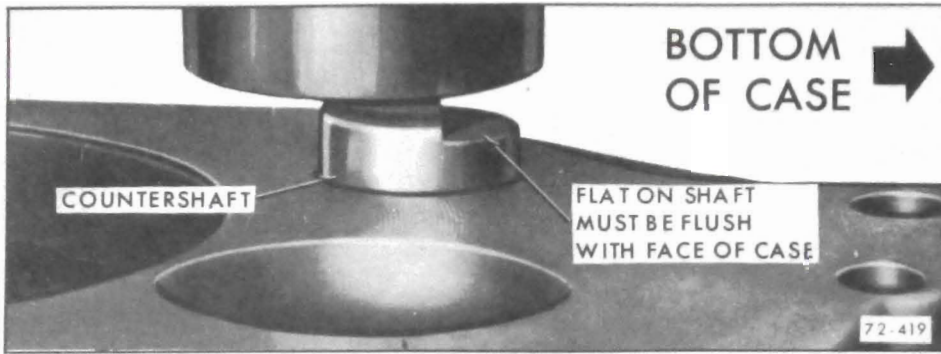

Figure 72-419 - Installing Countershaft
4. Align countergear with shaft in rear and hole in front of case. Press countershaft into case (pushing alignment tool out front of case) until flat on shaft is flush with rear of case. Make certain thrust washers remain in position. See Figure 72-419.